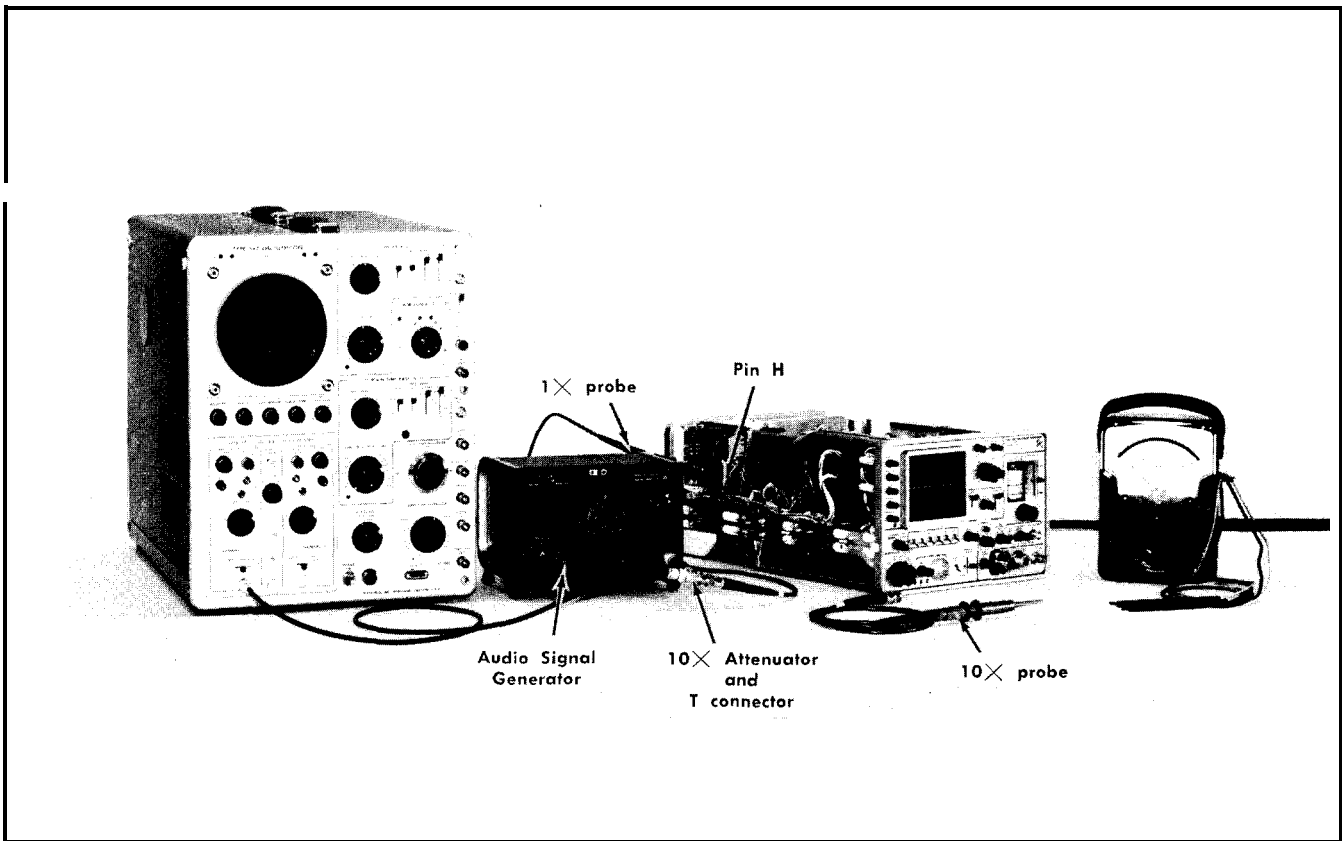

Fig. 6-11. Equipment setup for adjusting and checking triggering,
- a. Equipment setup is shown in Fig. 6-11.